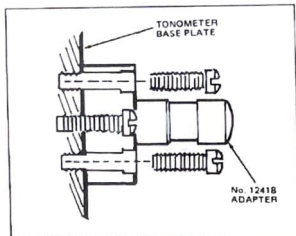

Figure 1.
2. Assemble No. 12418 adapter (optional accessory to the Tonometer base plate with three No. X1182 screws supplied (Figure 1).